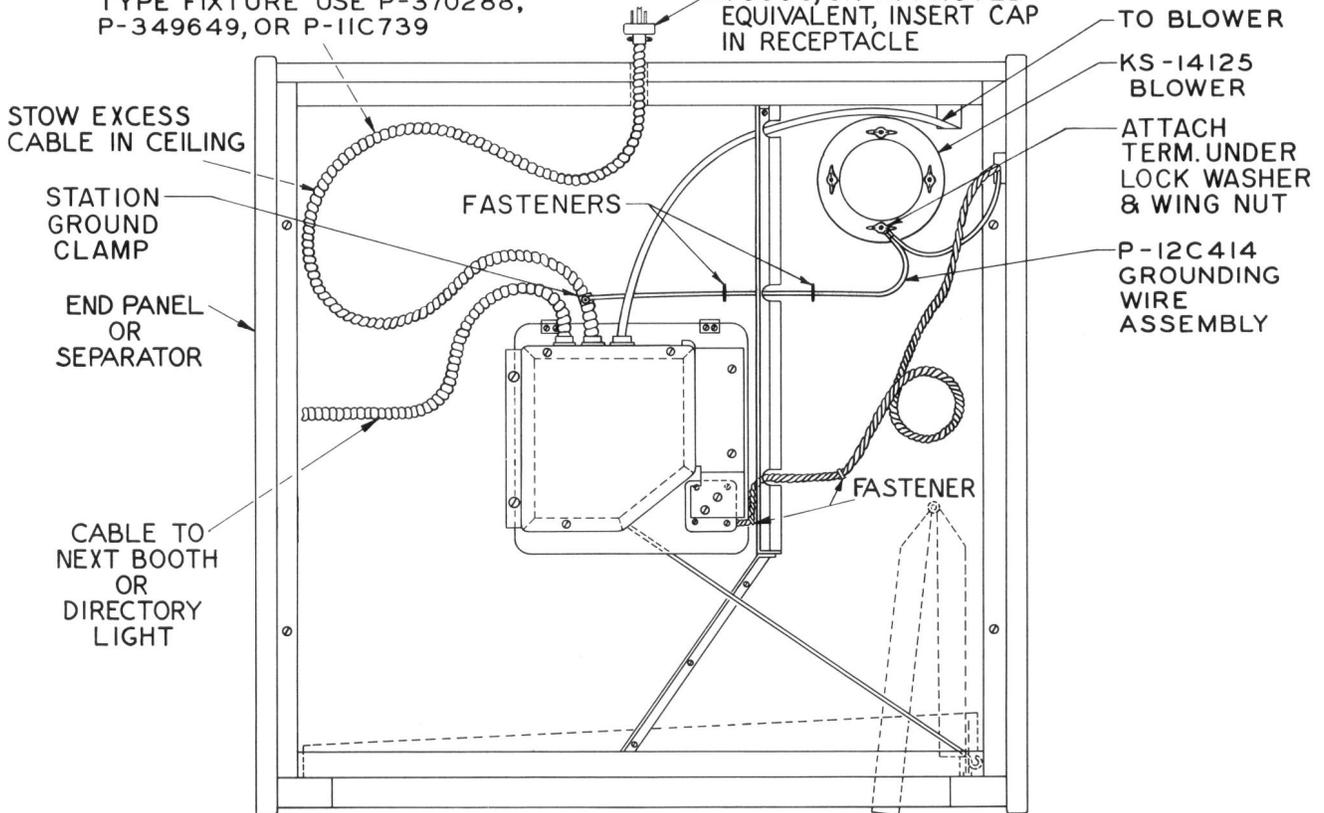

Fig. 4 - Typical Installation for 3-way Receptacle
2.07 Use the 2-conductor armored flexible cable, or approved equivalent, to connect the 3-way receptacle and the booth lighting equipment (Fig. 4).